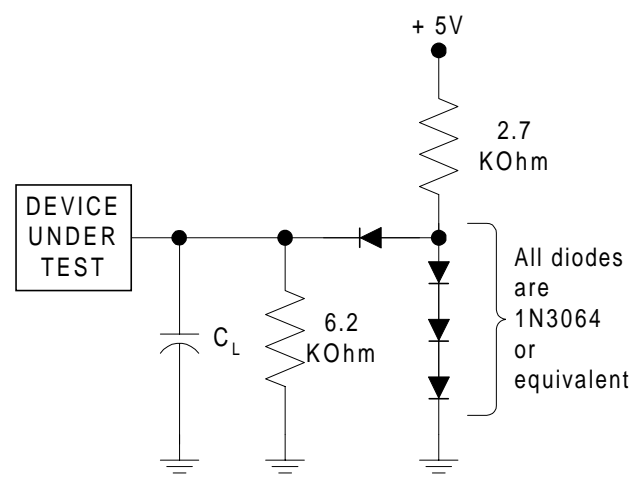

Figure 10. Test Setup
2. See Figure 10 and Table 7 for test conditions.